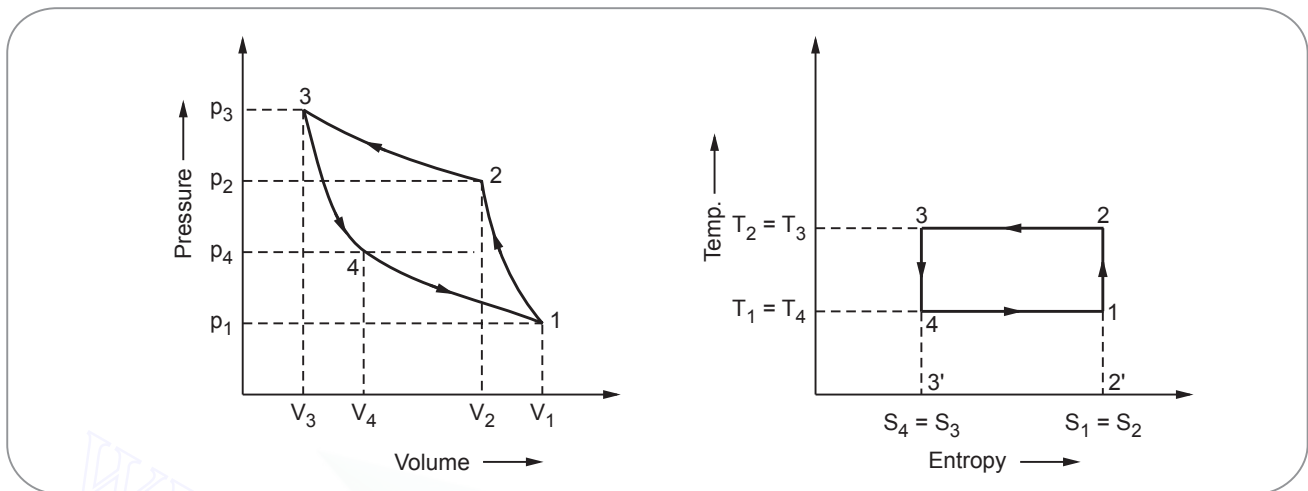

Fig. 5.29
- The reversed carnot cycle which work by considering air as a working medium is shown in Fig. 5.29.